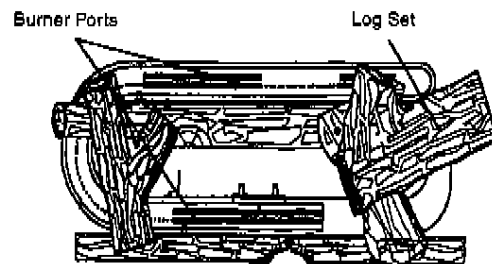

Figure 11. Installing One-Piece Log Set (Top View)
**IMPORTANT:** Make sure log does not cover any burner ports (see Figure 11).